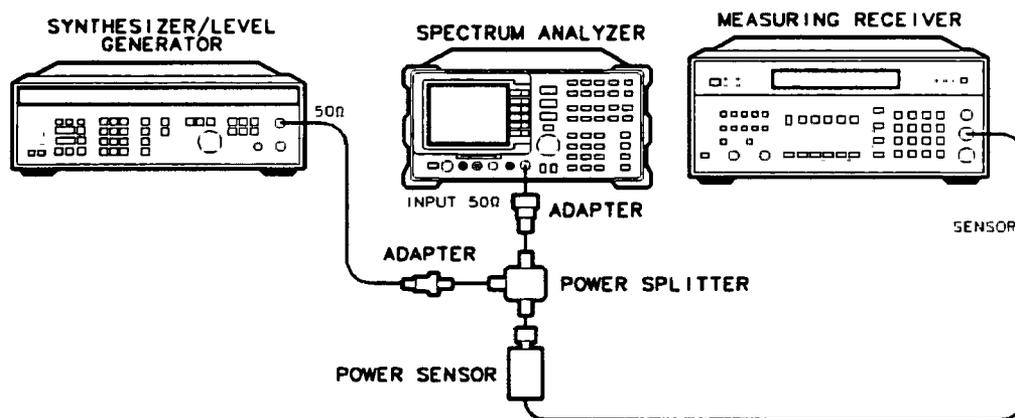

Figure 4-16. Frequency Response Test Setup (<50 MHz)
55. Connect the equipment as shown in Figure 4-16, with the power sensor connected to power splitter.